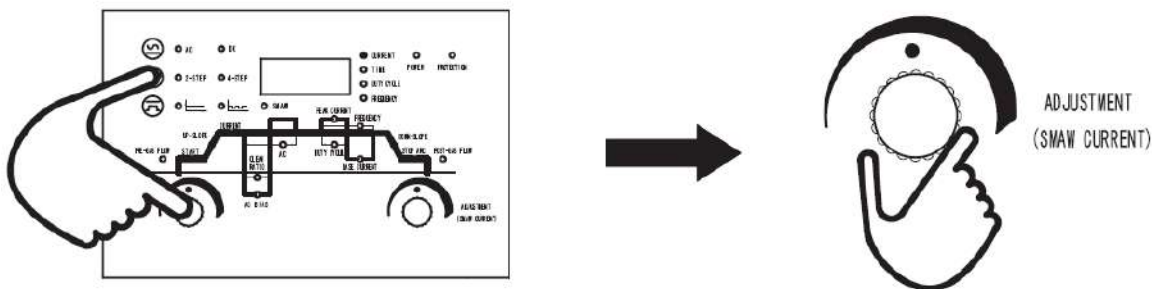

Fig. 4-6-4: Set the tungsten electrode diameter
**Important!** In order to obtain optimal welding results in TIG welding, sometimes it is necessary to set the tungsten electrode diameter. Press and hold the parameter selection knob and 2-step/4-step button at same time for 3 seconds to enter the tungsten electrode diameter selection menu, then turn  knob to select the desired tungsten electrode diameter (Range: 0.8~6.0 mm, factory setting: 2.0 mm), as shown in Fig. 4-6-4.